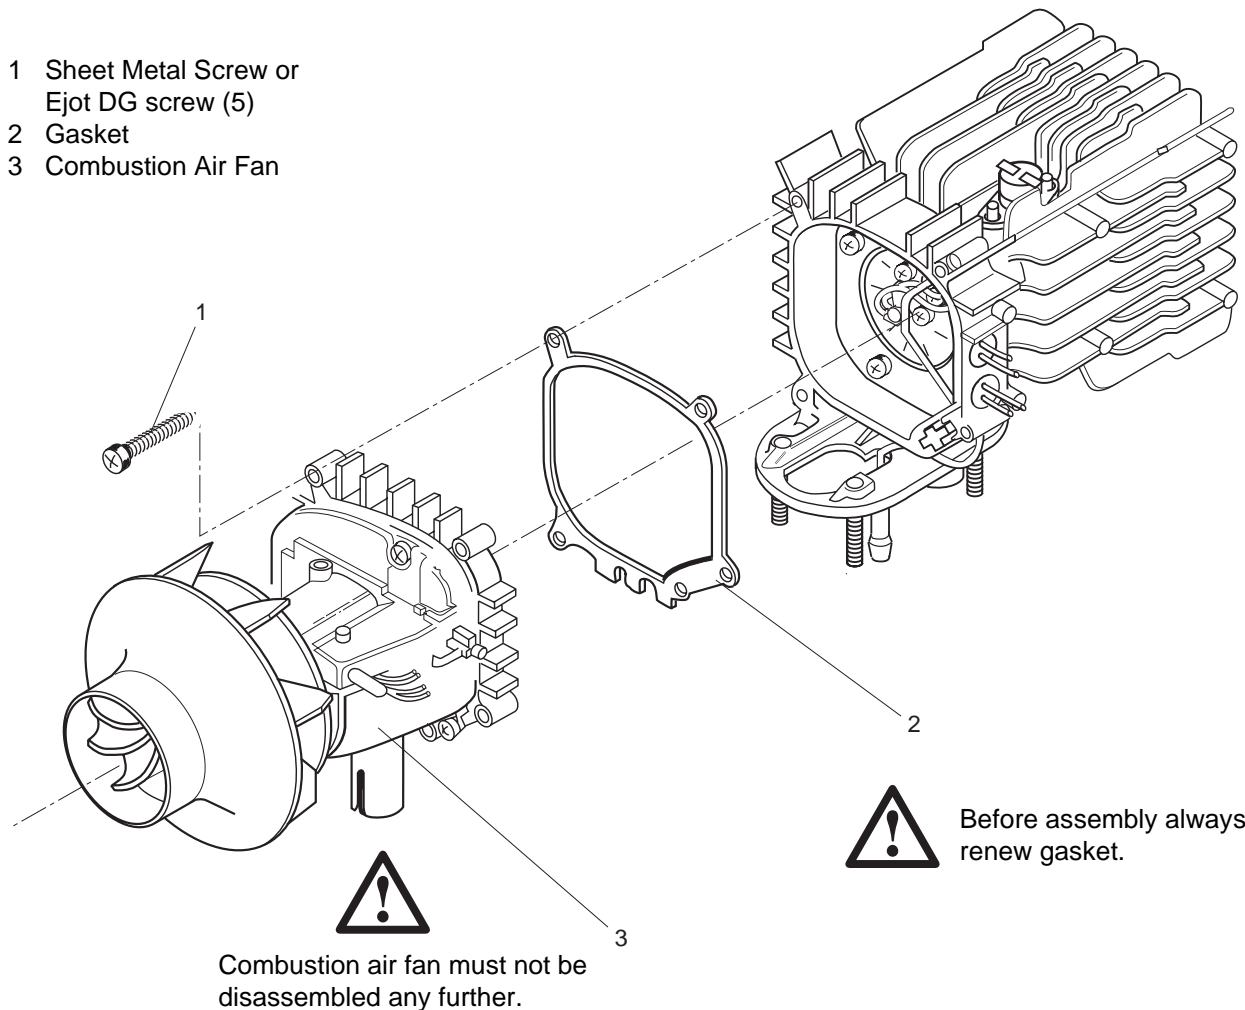

Fig. 903 Replacement of Combustion Air Fan (Disassembly)
6. Remove screws (1, Fig. 903).
7. Withdraw combustion air fan (3) and remove gasket (2).
2. Place new gasket (2, Fig. 903) onto flange of combustion air fan (3).
- Position insulation mat according to Fig. 903 so that the maximum distance to the temperature limiter is obtained.